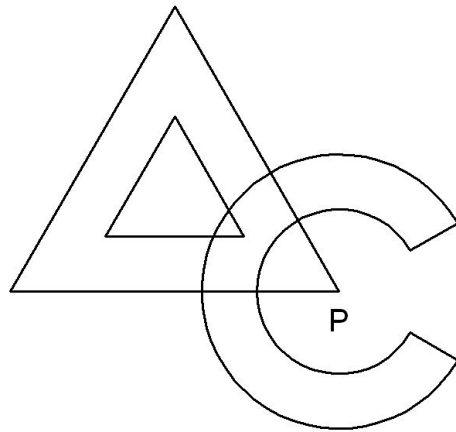

Figure 1(a)
1. (a) Figure 1(a) shows the logo of an organisation. In the space given below, using 'P' as a centre of enlargement, enlarge the logo to a similar figure with sides in a ratio of 2:1.